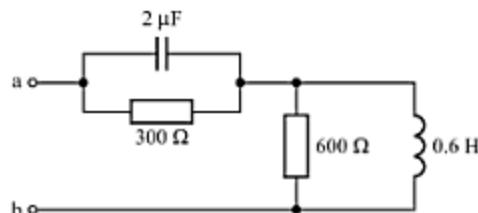

Fig. C-46
- C-43.** Find Z_{ab} for the circuit shown in Fig. C-46 if ω is equal to (a) 800 rad/s, and (b) 1600 rad/s.